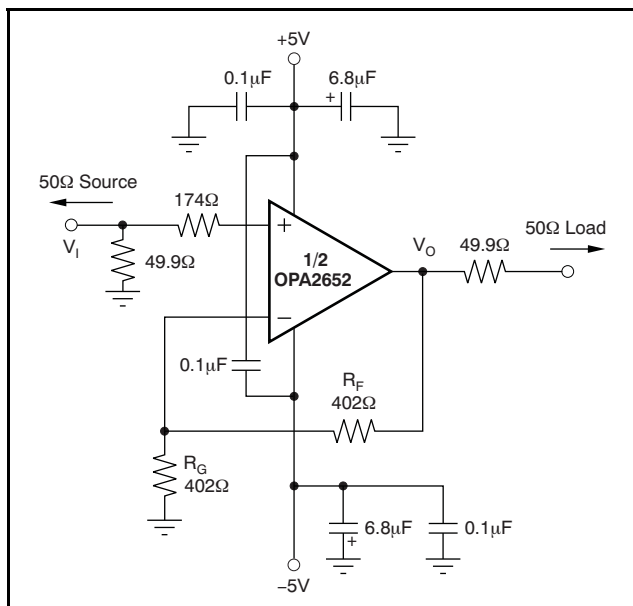
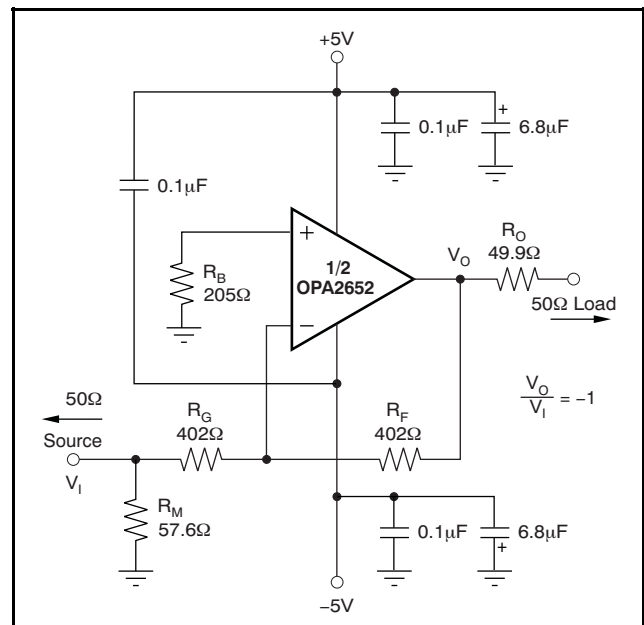

Figure 28. DC-Coupled,  $G = +2$ , Bipolar Supply, Specification and Test Circuit
Figure 29. DC-Coupled,  $G = -1$ , Bipolar Supply, Specification and Test Circuit
At  $T_A = +25^\circ C$ ,  $G = +2$ ,  $R_F = 402\Omega$ , and  $R_L = 100\Omega$ , unless otherwise noted. See Figure 28 and Figure 29 for AC performance only.
At  $T_A = +25^\circ C$ ,  $G = +2$ ,  $R_F = 402\Omega$ , and  $R_L = 100\Omega$ , unless otherwise noted. See Figure 28 and Figure 29.
Figure 28 shows the DC-coupled, gain of +2, dual power-supply circuit configuration used as the basis of the  $\pm 5\text{V}$  specifications and typical characteristics. This configuration is for one channel. The other channel is connected similarly. For test purposes, the input impedance is set to  $50\Omega$  with a resistor to ground and the output impedance is set to  $50\Omega$  with a series output resistor.
Voltage swings reported in the specifications are taken directly at the input and output pins, while output powers (dBm) are at the matched  $50\Omega$  load. For the circuit of Figure 28, the total effective load will be  $100\Omega \parallel 804\Omega$ . Two optional components are included in Figure 28.
Figure 29 shows the DC-coupled, gain of  $-1$ , bipolar supply circuit configuration that is the basis of the specifications and typical characteristics at  $G = -1$ . The input impedance matching resistor ( $57.6\Omega$ ) used for testing gives a  $50\Omega$  input load. A resistor ( $205\Omega$ ) connects the noninverting input to ground. This configuration provides the DC source resistance matching to cancel outputs errors arising from input bias current.
A good rule of thumb is to target the parallel combination of  $R_F$  and  $R_G$  (see Figure 28) to be less than approximately 300Ω. The combined impedance  $R_F \parallel R_G$  interacts with the inverting input capacitance, placing an additional pole in the feedback network, and thus a zero in the forward response. Assuming a 2pF total parasitic on the inverting node, holding  $R_F \parallel R_G < 300\Omega$  keeps this pole above 250MHz. By itself, this constraint implies that the feedback resistor  $R_F$  can increase to several kΩ at high gains. This increase is acceptable as long as the pole formed by  $R_F$  and any parasitic capacitance appearing in parallel is kept out of the frequency range of interest.
Voltage feedback op amps exhibit decreasing closed-loop bandwidth as the signal gain is increased. In theory, this relationship is described by the Gain Bandwidth Product (GBP) shown in the specifications. Ideally, dividing GBP by the noninverting signal gain (also called the Noise Gain, or NG) predicts the closed-loop bandwidth. In practice, this prediction only holds true when the phase margin approaches 90°, as it does in high gain configurations. At low gains (increased feedback factor), most amplifiers exhibit a wider bandwidth and lower phase margin. The OPA2652 is compensated to give a flat response in a noninverting gain of 1 (see Figure 28). This configuration results in a typical gain of +1 bandwidth of 700MHz, far exceeding that predicted by dividing the 200MHz GBP by  $NG = 1$ . Increasing the gain
Because the OPA2652 is a general-purpose, wideband voltage feedback op amp, all of the familiar op amp application circuits are available to the designer. Inverting operation is one of the more common requirements and offers several performance benefits. Figure 29 shows a typical inverting configuration.
In the inverting configuration, three key design considerations must be noted. First, the gain resistor ( $R_G$ ) becomes part of the signal channel input impedance. If input impedance matching is desired (which is beneficial whenever the signal is coupled through a cable, twisted pair, long PCB trace or other transmission line conductor),  $R_G$  may be set equal to the required termination value and  $R_F$  adjusted to give the desired gain. This approach is the simplest, and results in optimum bandwidth and noise performance. However, at low inverting gains, the resulting feedback resistor value can present a significant load to the amplifier output. For an inverting gain of  $-1$ , setting  $R_G$  to 50Ω for input matching eliminates the need for  $R_M$  but requires a 50Ω feedback resistor. This configuration has the interesting advantage that the noise gain becomes equal to 2 for a 50Ω source impedance—the same as the noninverting circuits considered above. However, the amplifier output now sees the 50Ω feedback resistor in parallel with the external load. In general, the feedback resistor should be limited to the 200Ω to 1.5kΩ range. In this case, it is preferable to increase both the  $R_F$  and  $R_G$  values as shown in Figure 29, and then achieve the input matching impedance with a third resistor ( $R_M$ ) to ground. The total input impedance becomes the parallel combination of  $R_G$  and  $R_M$ .
The second major consideration, touched on in the previous paragraph, is that the signal source impedance becomes part of the noise gain equation and influences the bandwidth. For the example in Figure 29, the  $R_M$  value combines in parallel with the external 50Ω source impedance, yielding an effective driving impedance of  $50\Omega \parallel 57.6\Omega = 26.8\Omega$ . This impedance is added in series with  $R_G$  for calculating the noise gain (NG). The resulting NG is 1.94 for Figure 29 (an ideal source would cause  $NG = 2.00$ ).
error, as a result of the input bias currents, is reduced to (Input Offset Current) •  $R_F$ . If the 50 $\Omega$  source impedance is DC-coupled in Figure 29, the total resistance to ground on the inverting input will be 429 $\Omega$ . Combining this in parallel with the feedback resistor gives 208 $\Omega$ , which is close to the  $R_B = 205\Omega$  used in Figure 29. To reduce the additional high-frequency noise introduced by this resistor, it is sometimes bypassed with a capacitor. As long as  $R_B < 300\Omega$ , the capacitor is not required since its total noise contribution is much less than that of the op amp input noise voltage.
The OPA2652 provides good distortion performance into a 100 $\Omega$  load on  $\pm 5V$  supplies. Increasing the load impedance improves distortion directly. Remember that the total load includes the feedback network; in the noninverting configuration (Figure 28), this is sum of  $R_F + R_G$ , while in the inverting configuration, it is only  $R_F$ . Also, providing an additional supply decoupling capacitor (0.1 $\mu F$ ) between the supply pins (for bipolar operation) improves the 2nd-order distortion slightly (3dB to 6dB).
Evaluating these two equations for the OPA2652 circuit and component values shown in Figure 28 gives a total output spot noise voltage of  $17\text{nV}/\sqrt{\text{Hz}}$  and a total equivalent input spot noise voltage of  $8.4\text{nV}/\sqrt{\text{Hz}}$ . This noise includes the noise added by the bias current cancellation resistor ( $205\Omega$ ) on the noninverting input. This total input-referred spot noise voltage is only slightly higher than the  $8\text{nV}/\sqrt{\text{Hz}}$  specification for the op amp voltage noise alone. This result will be the case as long as the impedances appearing at each op amp input are limited to the previously recommend maximum value of  $300\Omega$ . Keeping both  $(R_F \parallel R_G)$  and the noninverting input source impedance less than  $300\Omega$  satisfies both noise and frequency response flatness considerations. Since the resistor-induced noise is relatively negligible, additional capacitive decoupling across the bias current cancellation resistor ( $R_B$ ) for the inverting op amp configuration of Figure 29 is not required.
The balanced input stage of a wideband voltage feedback op amp allows good output DC accuracy in a wide variety of applications. Although the high-speed input stage does require relatively high input bias current (typically  $4\mu\text{A}$  out of each input terminal), the close matching between them may be used to significantly reduce the output DC error caused by this current. This reduction is done by matching the DC source resistances appearing at the two inputs. This matching reduces the output DC error resulting from the input bias currents to the offset current times the feedback resistor. Evaluating the configuration of Figure 28, using worst-case  $+25^\circ\text{C}$  input offset voltage and current specifications, gives a worst-case output offset voltage equal to:
As an example, compute the maximum  $T_J$  using an OPA2652E (SOT23-8 package) in the circuit of Figure 28 operating at the maximum specified ambient temperature of +85°C and with both outputs driving 2.5VDC into a grounded 100Ω load.